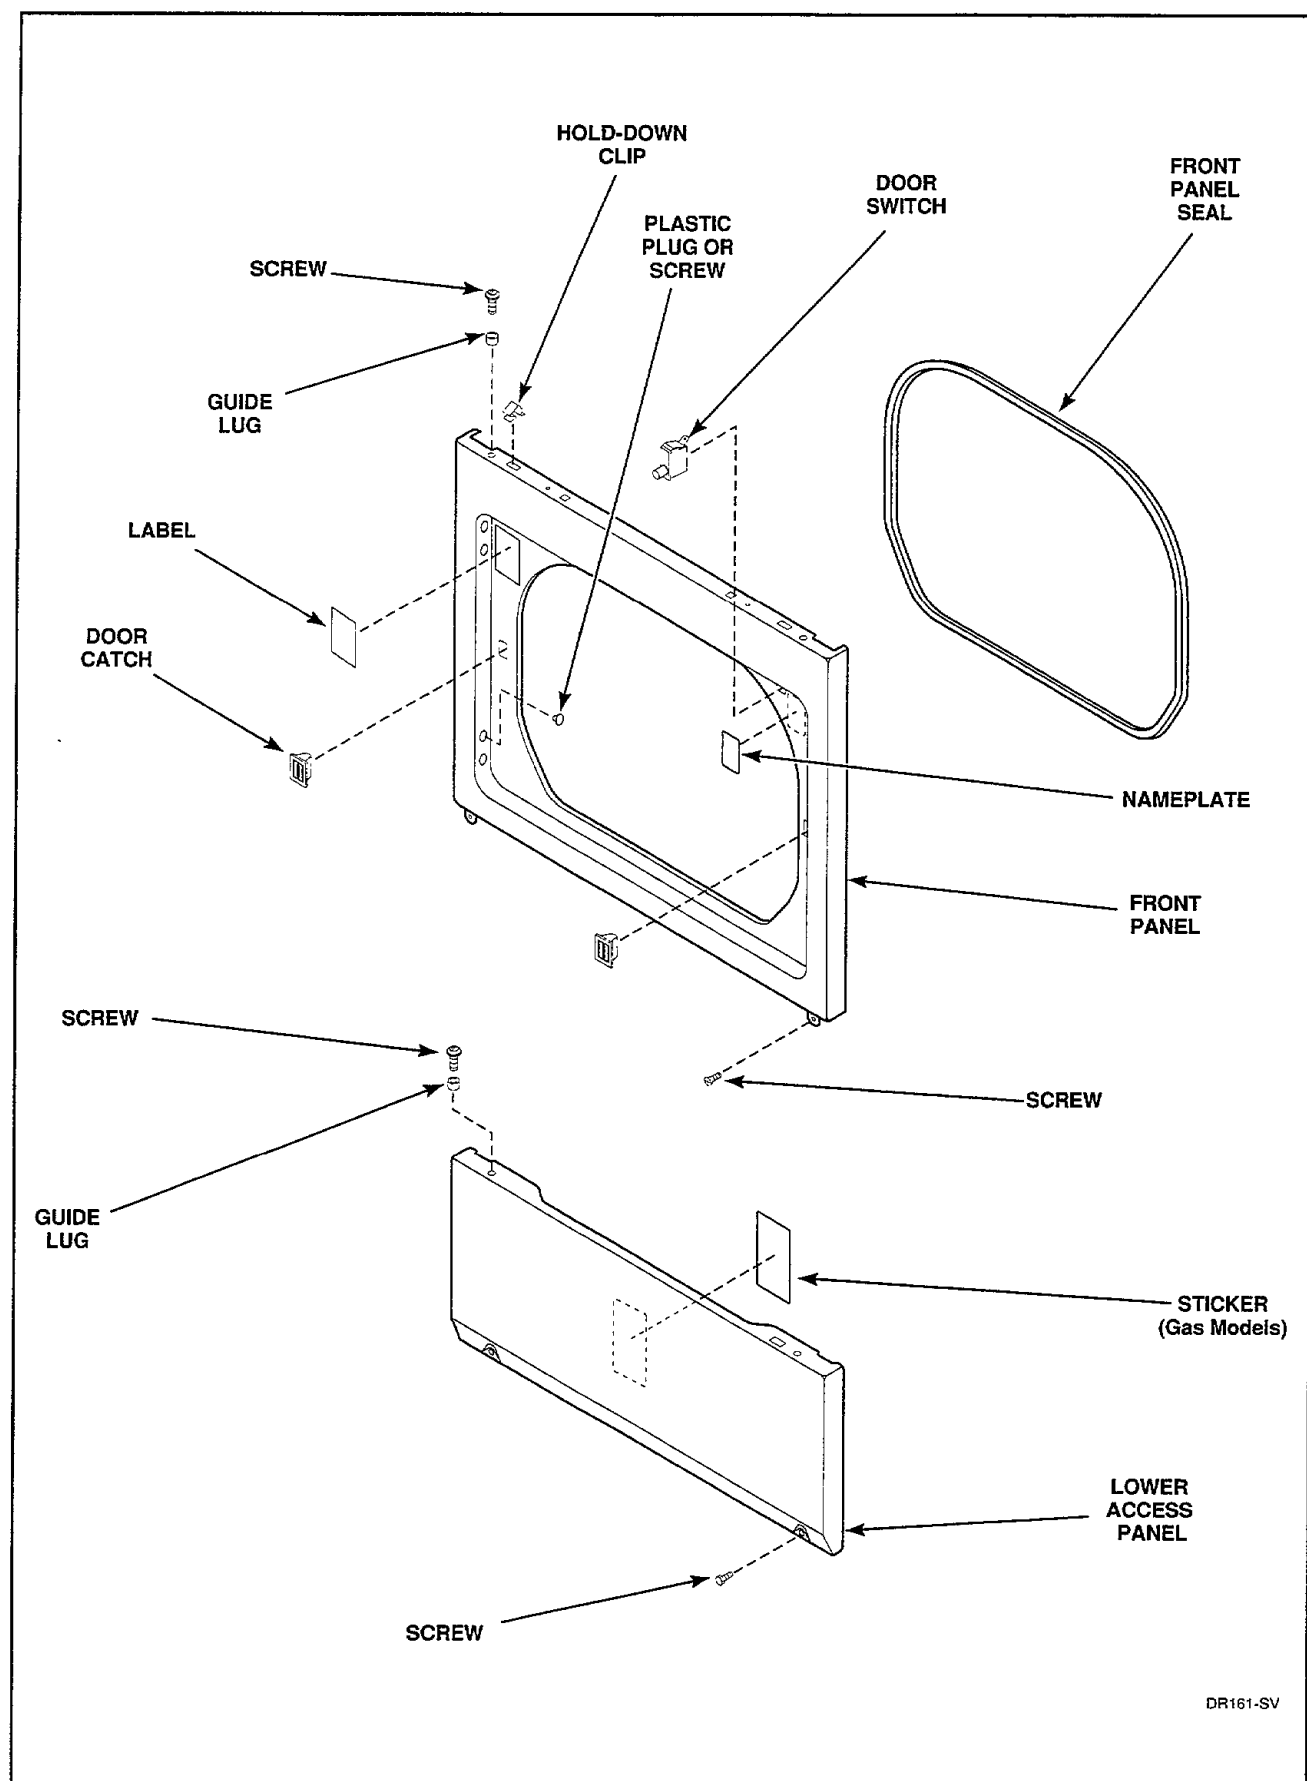

Figure 19
- While supporting the lower access panel, remove two screws from bottom edge of lower access panel, *Figure 19*.
- Remove front panel seal from flange around inside of door opening, *Figure 19*.
- Depress tabs on top and bottom of catch and push out of front panel, *Figure 19*.
- Remove four screws holding four guide lugs to access panel or front panel, *Figure 19*.